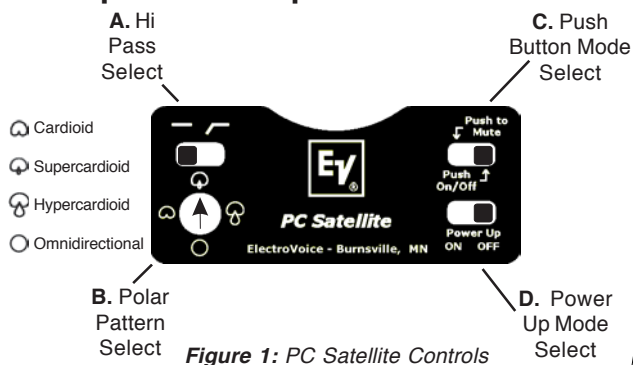

Figure 1: PC Satellite Controls
- 1) **A. Select High-Pass switch position** (see figure 1).
- B. Select preferred polar pattern** (see figure 1).
- C. Pushbutton Mode Select** (see figure 1) -
- D. Power Up Mode Select** (see figure 1) - This mode only functions when control (C) is set to “Push On/Off”.